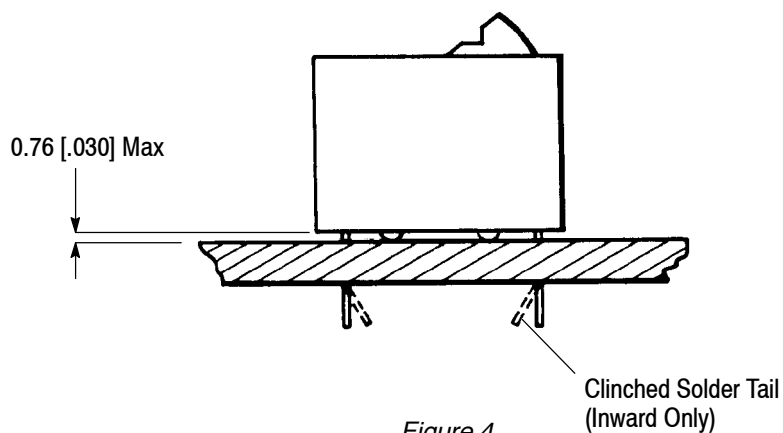

Figure 4
4. To hold switch in place during wave soldering, the four outside leads may be clinched inward at 45°. See Figure 4.
The solder tail must be through its intended hole in the pc board. Solder fillet must be evenly formed around each solder tail. The housing of the switch must be seated on the pc board not exceeding the dimension given in Figure 4.